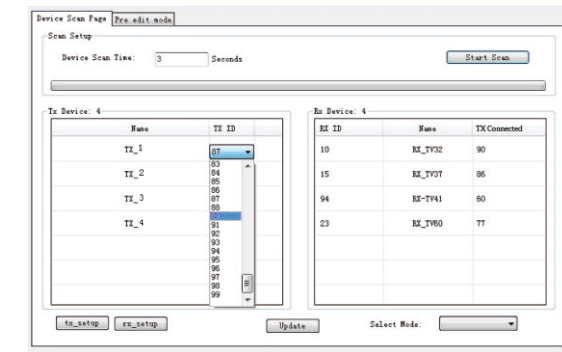

Figure 5
* Device channel (TX ID) setting as Figure 5